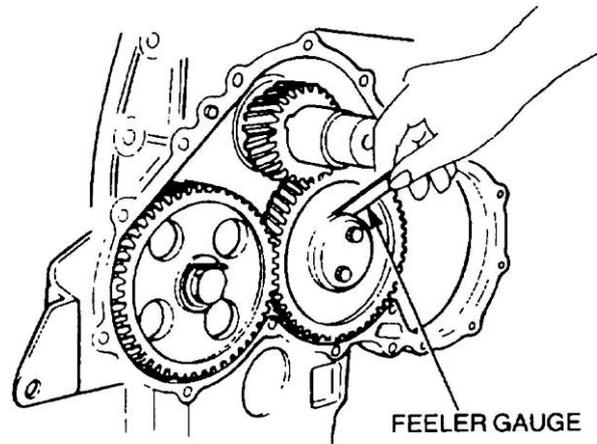

Figure 15 Checking the Idle Gear End-play
- hh. Before further removal of components from the engine, check the idle gear end-play with a feeler gauge (Figure 15). The standard end-play is 0.058 to 0.20 mm (0.002 to 0.008 in).